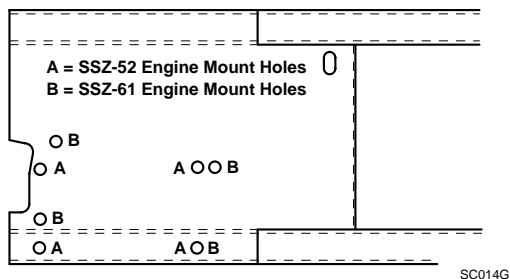

Figure 6
- Mount the engine and the engine guard weldment to the engine mounting frame using four (4) 5/16-18 x 1-3/4" hex head bolts (G), and elastic stop nuts (F). See Figure 6, Page 5 for the correct mounting holes for the cutter deck used on the machine.